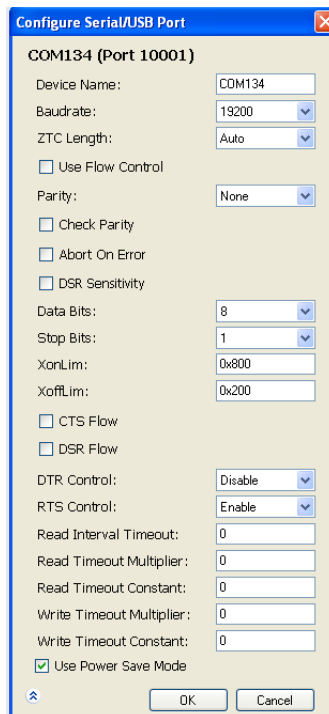

Figure 2-8. Command Console Local Port Configuration Window Advanced
5. Display more advanced configuration options for the serial connection by clicking the arrow button in the lower left side of the Configure Serial/USB Port window Figure 2-8. This expands the window to show more standard flow control or timeout port parameters.
Users can also configure Test Tool to send data to devices that are in low power mode and which have the functionality enabled to wake up on serial communication. To enable this feature go to advanced mode. Then, enable check box “Use power Save Mode” as shown in Figure 2-8. When this feature is activated, each time Test Tool sends a packet to a board, it changes the RTS Control bit to wake up the device if development hardware is configured in this manner.